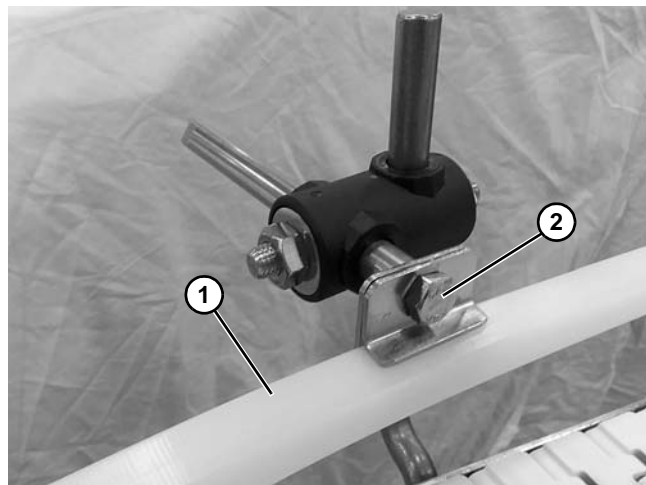

Figure 34
3. Install guide rail (**Figure 34, item 1**) into rail clamp. Tighten fastener (**Figure 34, item 2**) to secure.